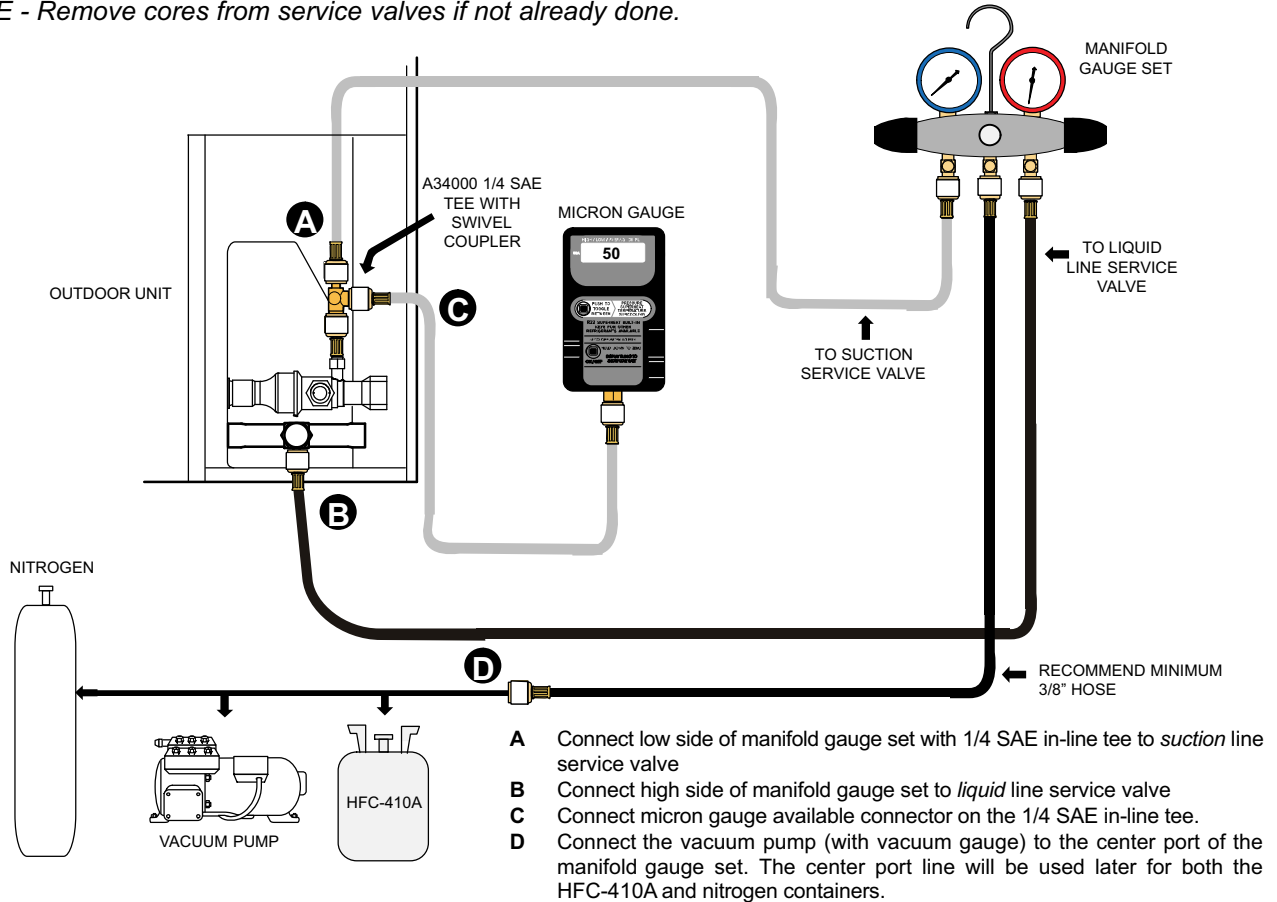

Figure 29. Typical Evacuation Manifold and Micron Gauges Connections
1. Connect an HFC-410A manifold gauge set as illustrated in figure 29.